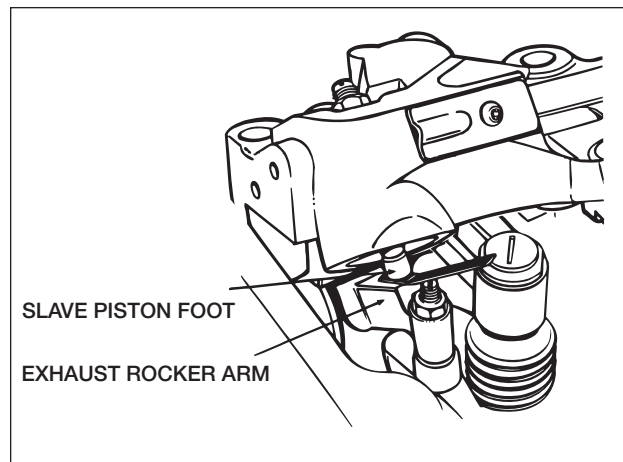

FIG. 9
4. Refer to Table 4 (p.7) for the correct lash setting for the engine and engine brake model being installed. Slowly back out the adjusting screw until a slight drag is felt on the feeler gauge (see Fig. 9).